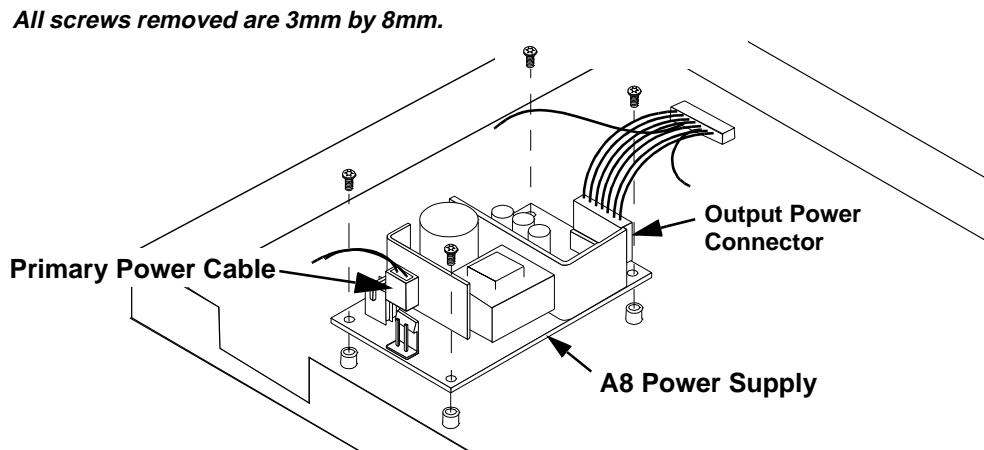

Figure 17
1. Disconnect the output power connector to the A4 assembly, see figure 17.